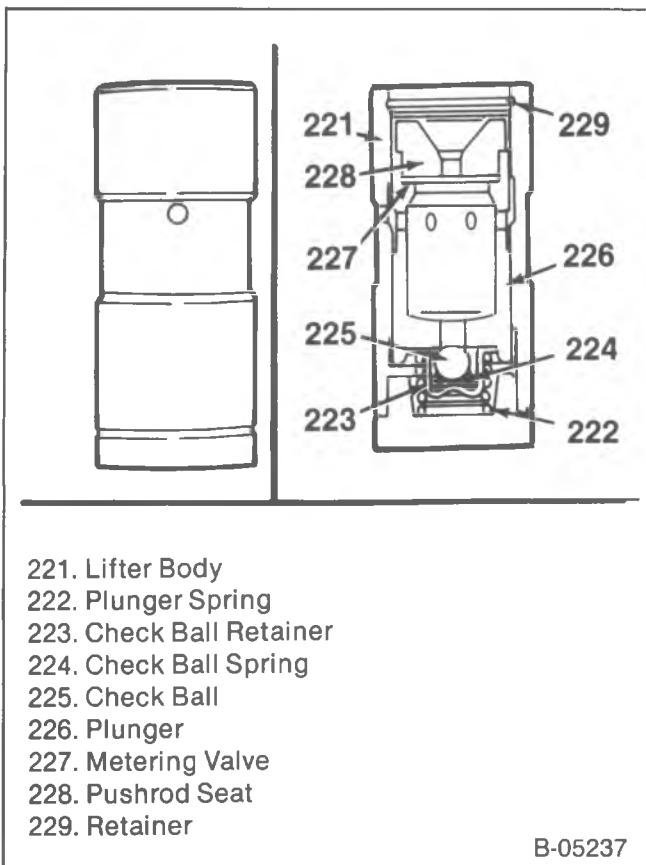

Figure 22—Flat Type Hydraulic Lifter Assembly
Inspect (Figures 22, 23, and 24)
- Inspect (Figures 22, 23, and 24)**
- Plunger (226) for scoring and wear.
- Pushrod seat (228). If worn or rough, also check the mating pushrod.
Assemble (Figures 22, 23, 24, 27, and 28)